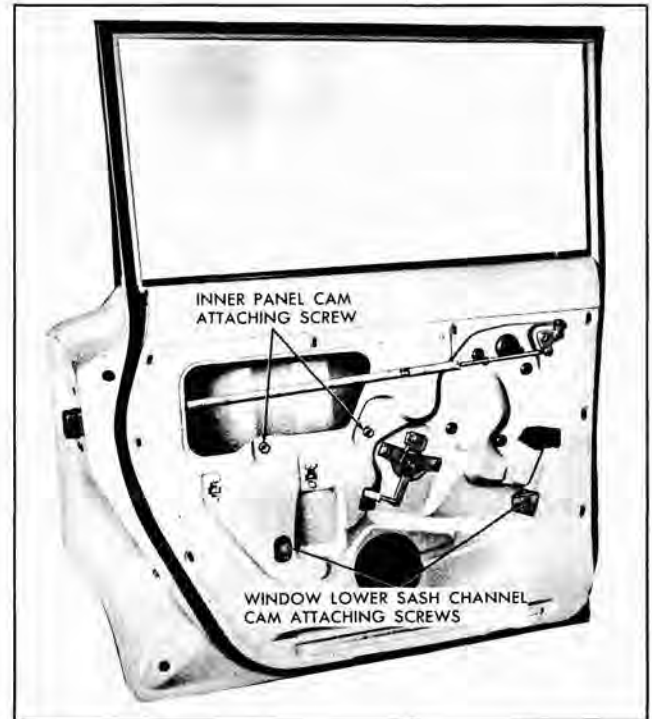

Fig. 13-29 Rear Door Assembly
1. Raise door window. Remove door trim assembly and detach inner panel water deflector sufficiently to expose inner panel cam attaching screws. (Fig. 13-29).
2. Lower door window sufficiently to gain access to sash channel cam attaching screws through access holes in door inner panel and remove screws. (Fig. 13-29).
3. Carefully lower door window and through access holes in door inner panel remove screws securing window lower sash channel cam to window lower sash channel (Fig. 13-29).
1. To adjust rear door window in or out, lower door window. Loosen rear glass run channel retainer assembly attaching screw and adjust guide assembly as required and tighten screw (Fig. 13-29).
2. To correct a condition where the glass is cocked in the glass run channels, loosen door window inner panel cam front and/or rear attaching screw(s), adjust cam as required and tighten screws (Fig. 13-29).